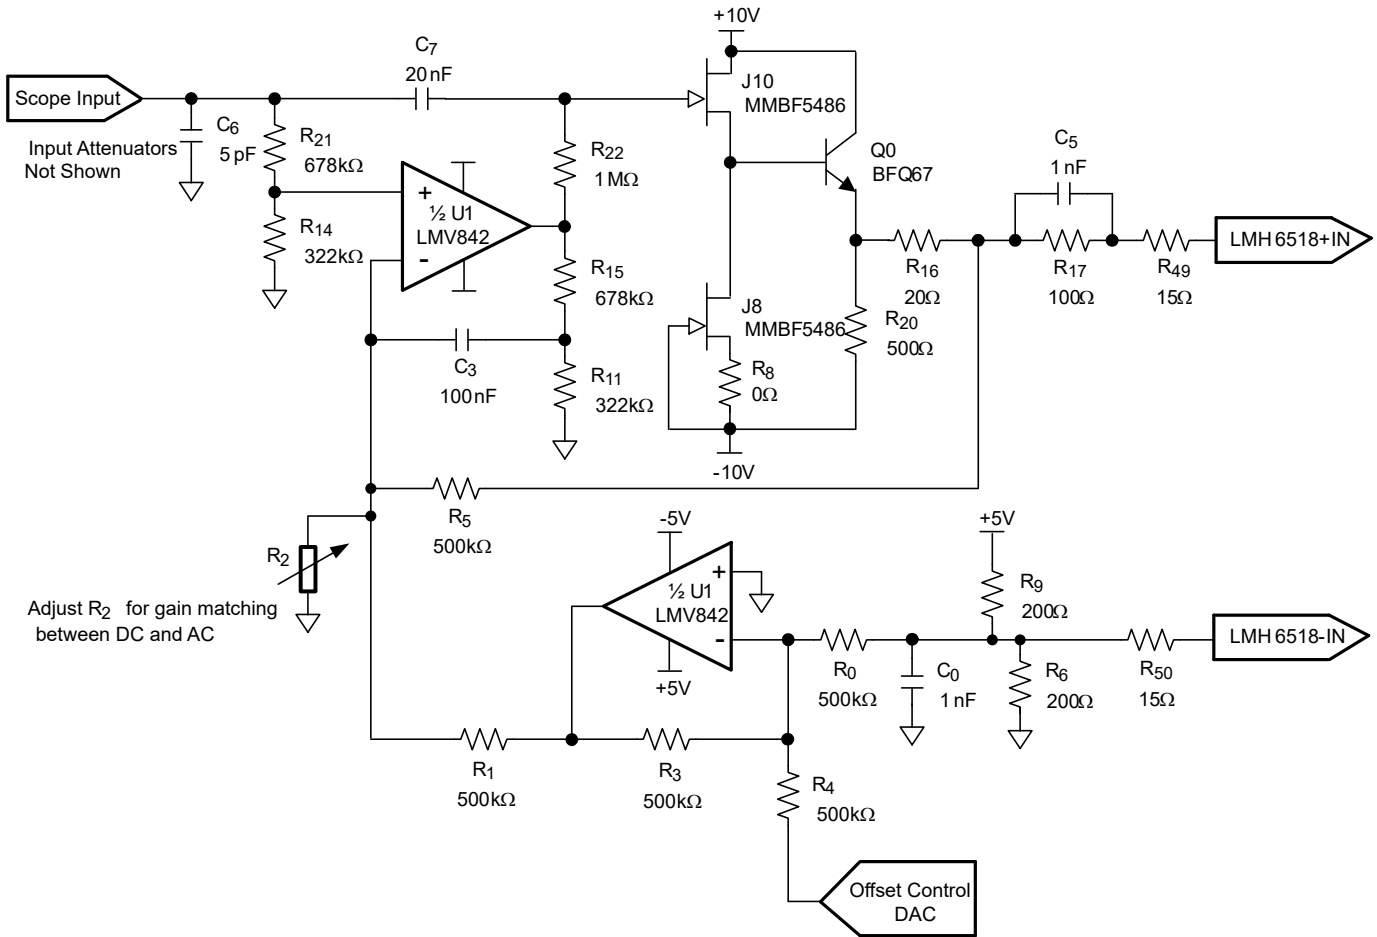
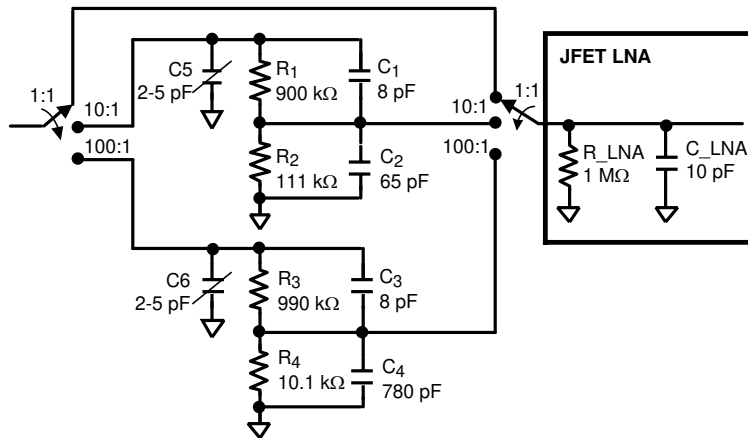

图 7-11. JFET LNA Implementation
图 7-12. Front-End Attenuator for JFET LNA Implementation
- Low noise ( $< 0.98\text{ nV}/\sqrt{\text{Hz}}$ ) to reduce the impact on the LMH6518 noise figure. Be aware that 图 7-1 does not show the necessary capacitors across the resistors in the front-end attenuators (see 图 7-12). These capacitors provide frequency response compensation and limit the noise contribution from the resistors so that the resistors do not impact the signal path noise. For more information about front-end attenuator design, including frequency compensation, see 节 8.2.1 for additional resources.
图 7-11 shows the schematic drawing for a possible implementation of the LNA buffer.
With the values in 图 7-11  $\rightarrow R_2$  approximately  $452\text{ k}\Omega$ .
图 7-12 shows a front-end attenuator designed to work with 图 7-11.